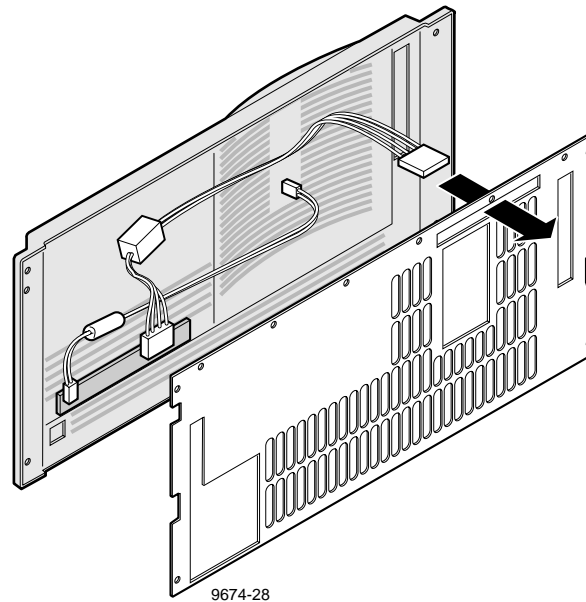

**Figure 15. Removing the front panel backing plate**
3. Use the Torx tool with the T8 tip to remove the six screws that attach the backing plate to the rear of the front panel (see Figure 15) and set the backing plate aside.
5. Reinstall the front panel backing plate (see Figure 15 and 16).